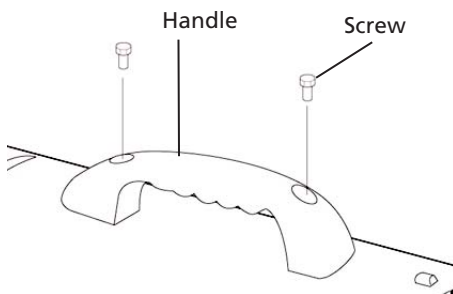

Figure 7 – Handle Installation 3VE48B and 3VE49B only
1. Align the holes in the upper housing with the two mounting holes on the handle as shown in Figure 7.